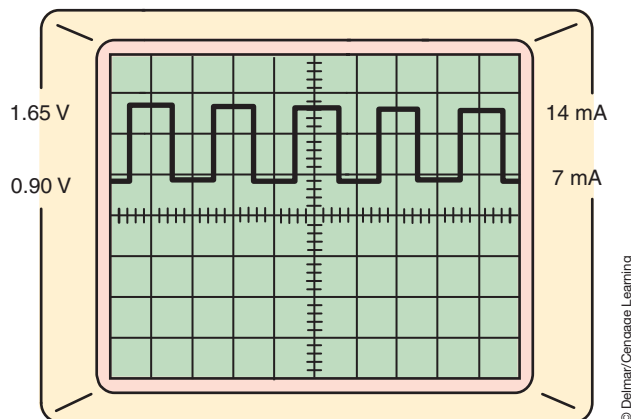

FIGURE 10-32 Output waveform of the magneto-resistive sensor.
Magneto-resistive (MR) sensors do not generate their own signal voltage and require an external power source. The MR bridge changes resistance due to the relationship of the tone wheel and magnetic field surrounding the sensor. The integrated circuit (IC) in the sensor is powered by a 12-volt circuit that is sent by the computer. The IC supplies a constant 7 mA power supply to the computer. The relationship of the tooth on the tone wheel to the permanent magnet in the sensor signals the IC to enable a second 7 mA power supply. The output of the sensor, sent to the computer, is a DC voltage signal with changing voltage and current levels. When a valley of the tone wheel is aligned with the sensor, the voltage signal is approximately 0.8 volts and a constant 7 mA current is sent to the computer. As the tone wheel rotates, the tooth shifts the magnetic field and the IC enables a second 7 mA current source. The computer senses a voltage signal of approximately 1.6 volts and 14 mA (Figure 10-32). The computer measures the amperage of the digital signal and interrupts the signal as component speed.